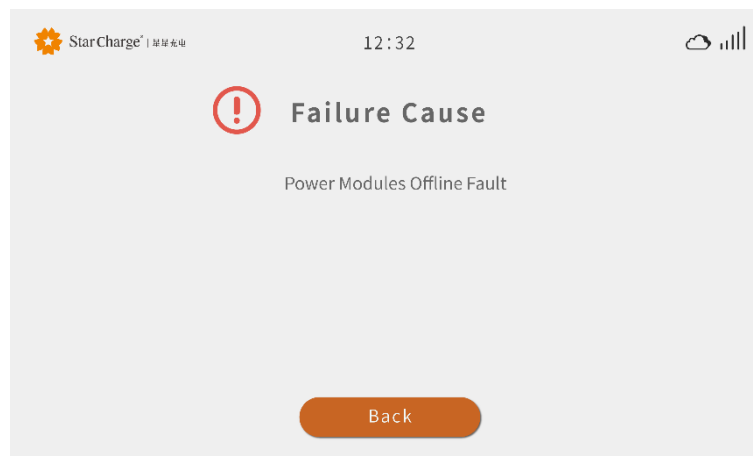

Figure 3-8 Fault details interface
Step 9 Click the exclamation mark to view the fault information, please contact the after-sales technical service for repair, as shown in Figure 3-8.